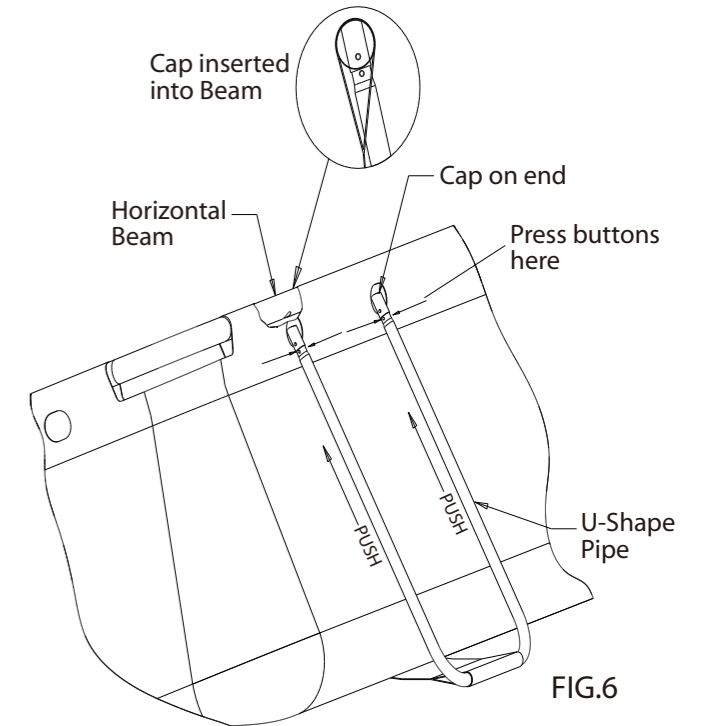

FIG.6
D. Now insert the U-Shape pipe sections through the end of each rectangular flap at the bottom of the pool Fig. 5. **Note: The ladder should be assembled prior to raising the wall to allow helpers easy access in and out, ladder assembly instructions are with the ladder.** Next, one or two other persons will have to support the horizontal beam raising the pool wall from inside the pool as another person inserts the U-Shape pipe supports Fig. 6. Insert the capped ends of the U-Shape pipe into the holes in the horizontal beam assembly by depressing the lower set of buttons Fig. 6 pushing the cap end entirely into the horizontal beam until it stops. Make sure all the U-Shape pipes are inserted fully and check that all connected sections are still securely fastened. Repeat this step for the **OPPOSITE SIDE**, then install the U-Shape frame supports at both **ENDS** of the pool.